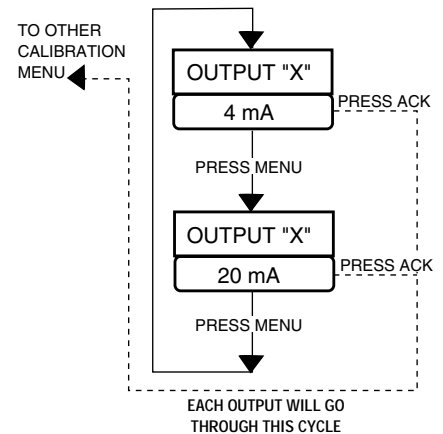

Figure A4.9
- Press **MENU** to scroll to the output to be calibrated (see *Figure A4.9*). The 3rd display should read 4 mA.